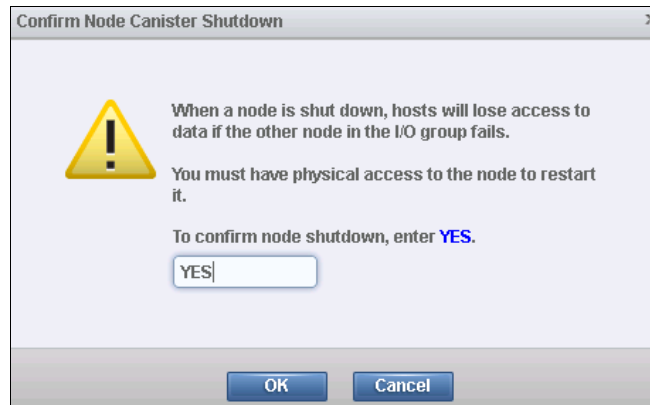

Figure 13-52 Confirm Shutdown window
3. The confirmation window opens (Figure 13-52). Confirm whether you want to shut down the node. Type YES and click **OK**. If the node is active as a Configuration node, the control is moved automatically to the second node canister. Your session to the GUI will probably interrupt. Re-establish it again from the browser after takeover happens.